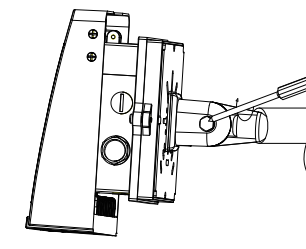

Figure 9
2. Put the wires into threaded rod, then screw the fixture in the threaded rod. (see figure 9)
3. Loosen the fix screw of the fixture bracket, adjust viewing angle, tighten the screw then finish installation. (see figure 9)